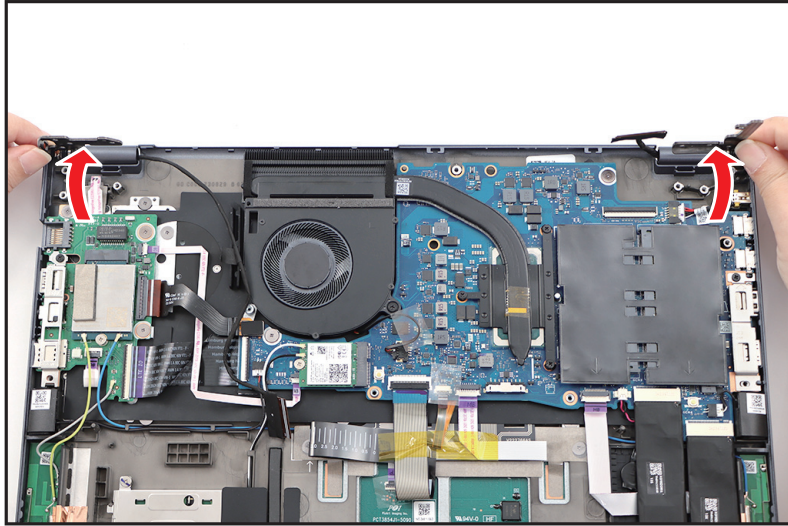

Figure 1-17. LCD Module Removal
5. Close the top assembly and lift both LCD hinges until they are fully extended (Figure 1-17).